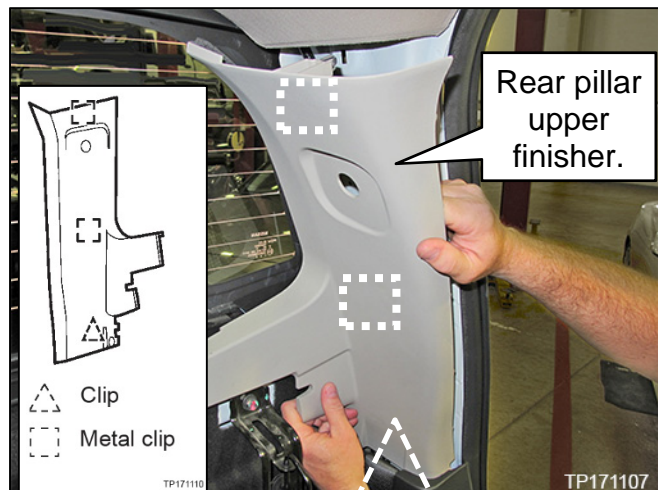

Figure 7
7. Remove the rear pillar upper finisher by releasing the clips shown in Figure 7.